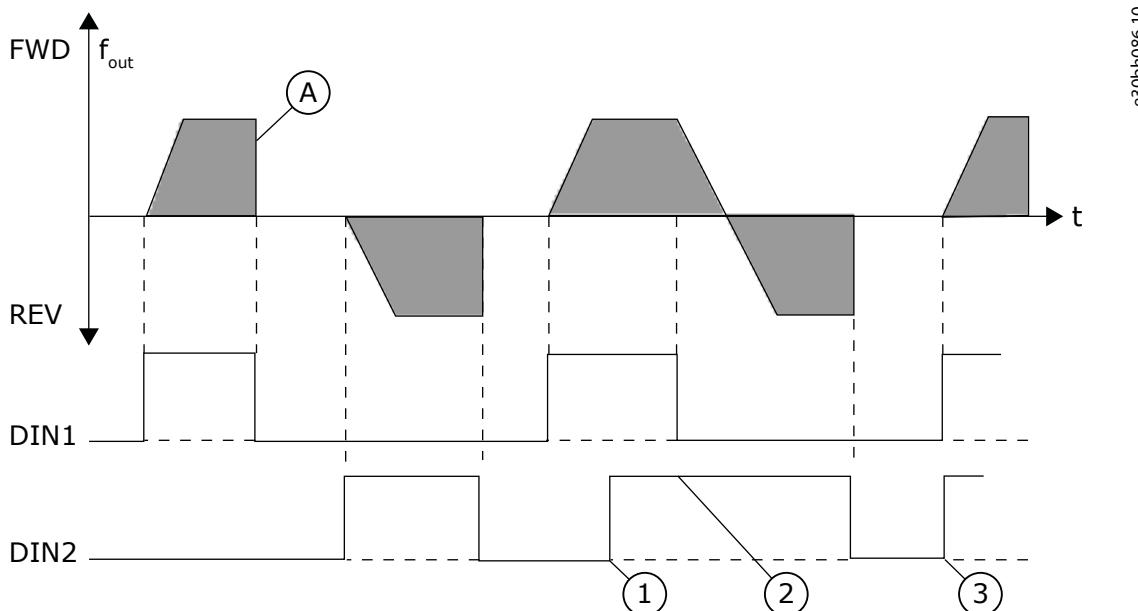
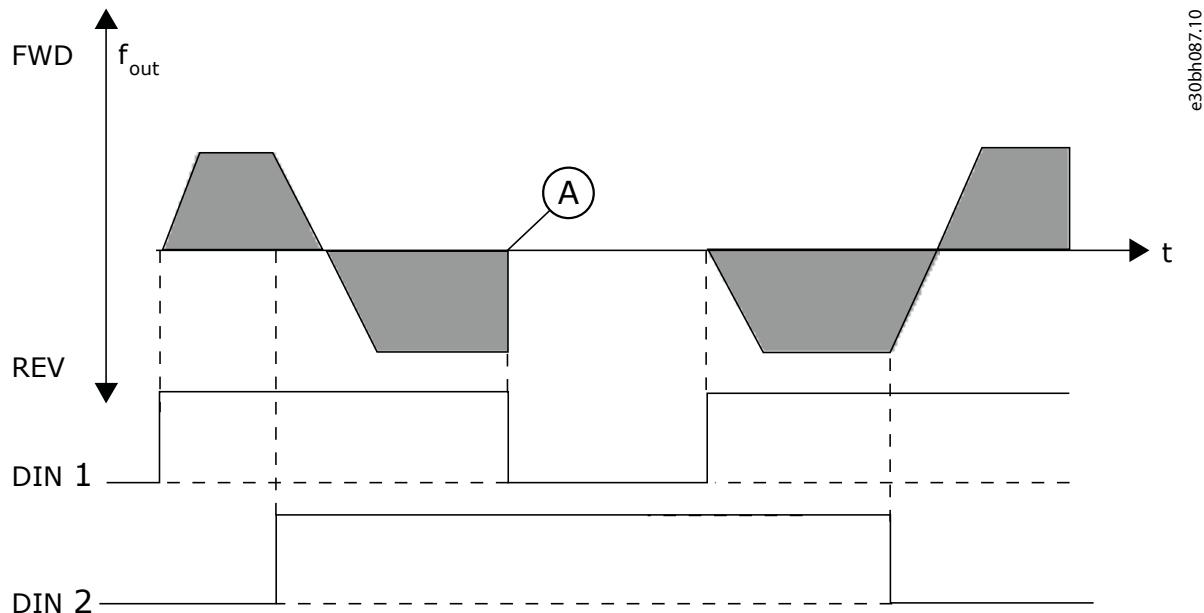
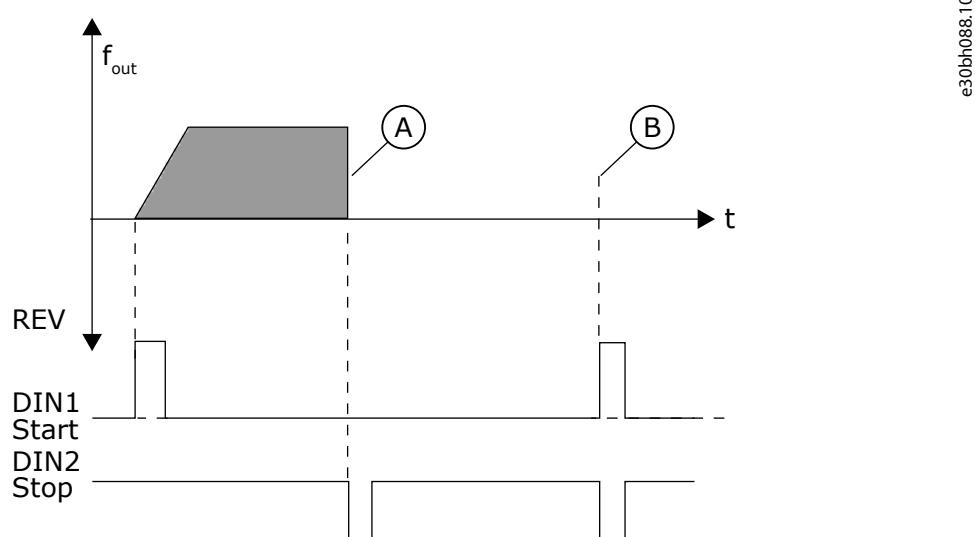

Figure 31: Start Forward/Start Reverse
Figure 32: Start, Stop, Reverse
Figure 33: Start Pulse/ Stop Pulse
1) See Figure 312) See Figure 323) See Figure 33